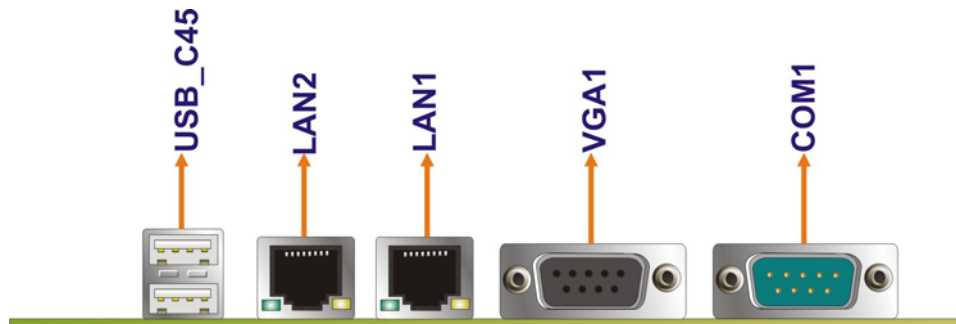

Figure 3-20: External Peripheral Interface Connector
- CN Location:** See **Figure 3-20**
CN Location: See **Figure 3-20**